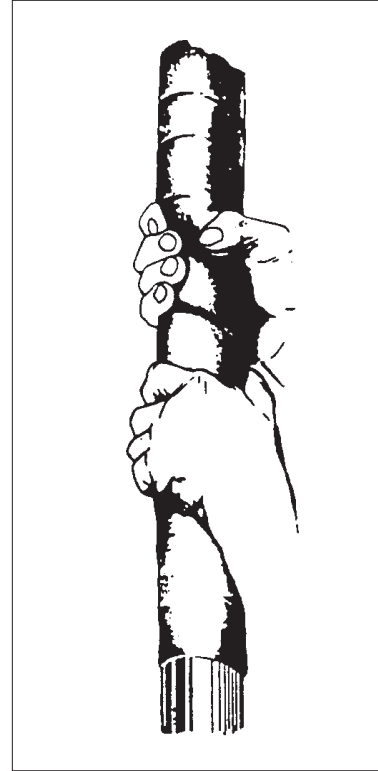

Figure 2
- 7.6 At the completion of each roll, smooth the overlaps by hand in the direction of the spiral (See Figure 2) to ensure sealing of the overlap.
- 7.7 On all vertical applications begin at the bottom and proceed up thereby creating a "weatherboard" overlap (See Figure 2).